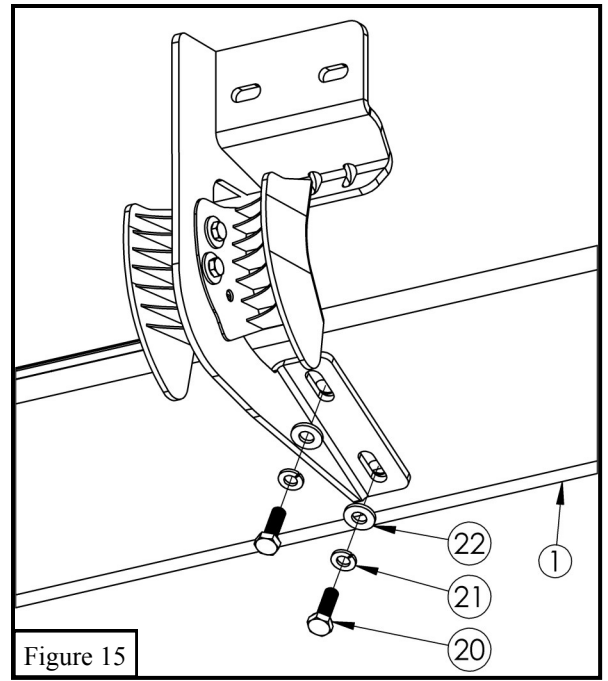

Figure 15
12. Loosely install the step bar assembly (Item 1) to the previously install mounting brackets with the supplied SEMS M8 hardware (Items 20-22). **See Figure 15.**